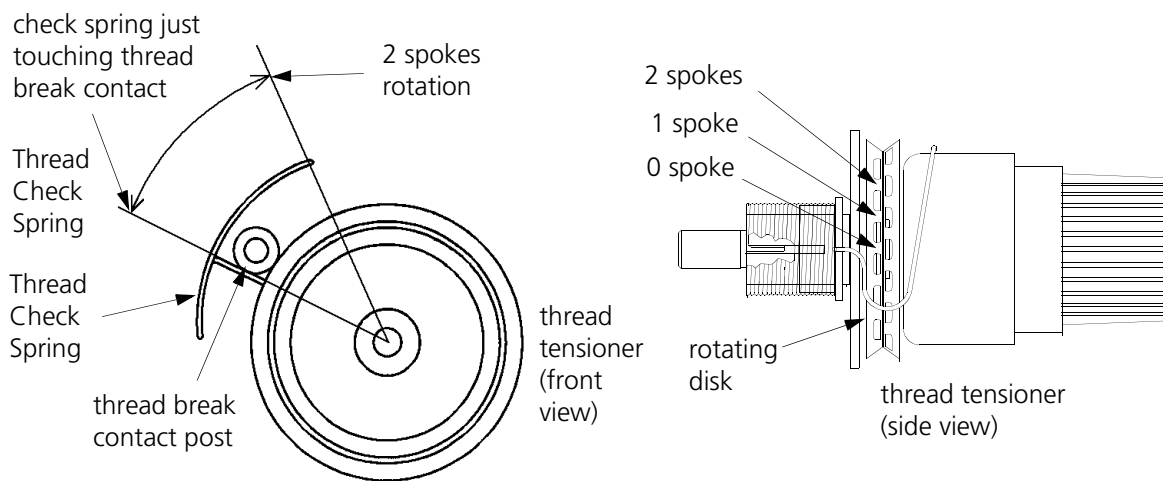

Figure 3-12
7. Rotate the thread tensioner to the position where the check spring is just touching the left side of the thread break contact (brass post). See Figure 3-12.
8. Observe the position of the thread tensioner check spring, then continue to rotate the thread tensioner clockwise the distance of 2 spokes of the rotating disk (see Figure 3-12). This represents 40 degrees rotation.